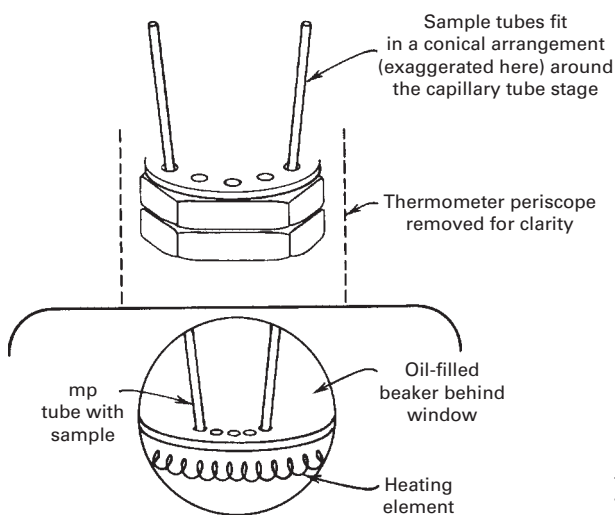

FIGURE 12.9 Close-up of the viewing system for the Thomas-Hoover apparatus.
5. Insert your capillary tube in one of the capillary tube openings in the capillary tube stage. *This is not simple.* Be careful. If you snap a tube at this point, the entire unit may have to be taken apart to remove the pieces. You have to angle the tube toward the center opening and angle the tube toward you (as you face the instrument) at the same time (Fig. 12.9). The capillary tube has to negotiate a second set of holes, so you have to angle the tube toward the center.